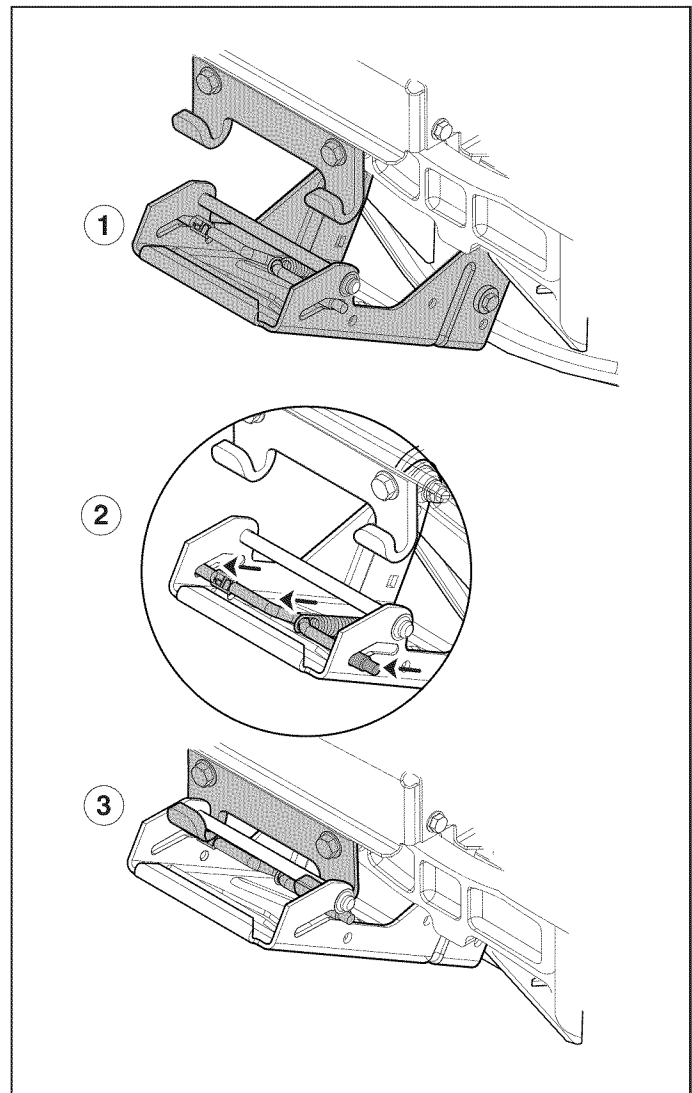

Figure 22
3. Turn the wheels straight ahead. Pull back on the spring-loaded lever and install the mower hitch on the tractor hitch brackets (see Figure 22).